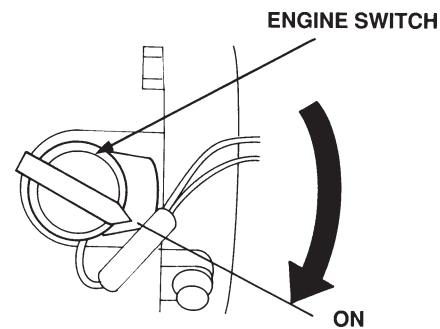

Figure 11. Engine ON/OFF Switch (ON Position)
5. Place the **engine ON/OFF switch** (Figure 11) in the **ON** position.